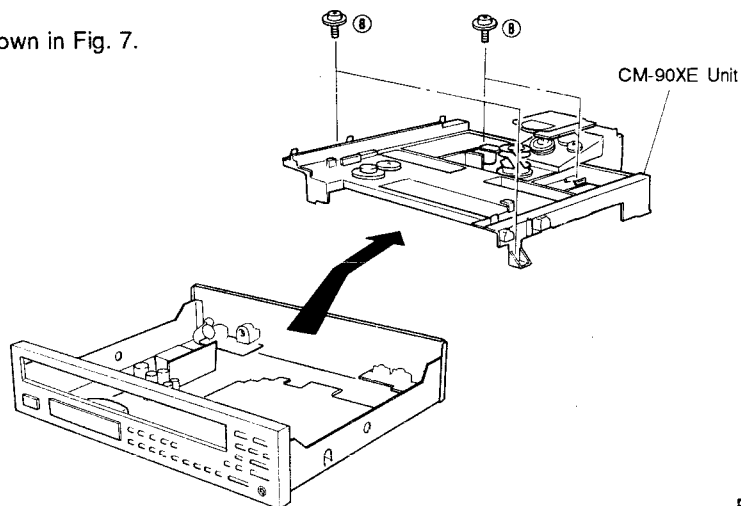

Fig. 7
- a. Remove 4 screws (⑧) as shown in Fig. 7.
- b. Take out the CM-90XE Unit out slowly as shown in Fig. 7.